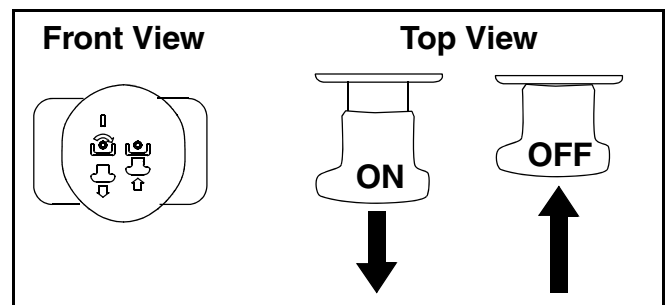

Figure 11
- Pull the PTO/Blade Engage knob outward into the engaged (ON) position. See Figure 11.
**IMPORTANT:** With the ignition key in the **NORMAL MOWING** position, the PTO clutch will automatically shut off if the PTO (Blade Engage) knob is moved into the engaged (ON) position with the drive pedal in position for Reverse travel. Refer to **Safety Interlock Switches** on page 16.